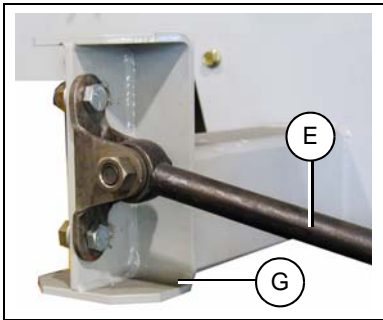
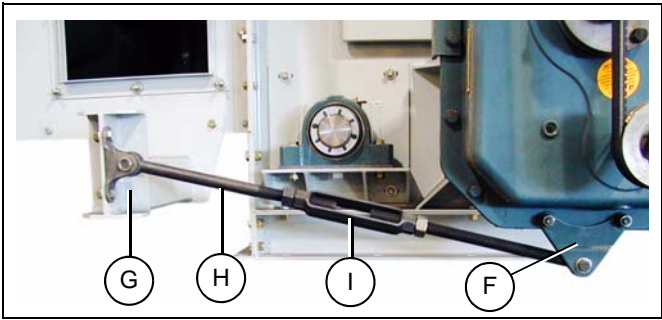
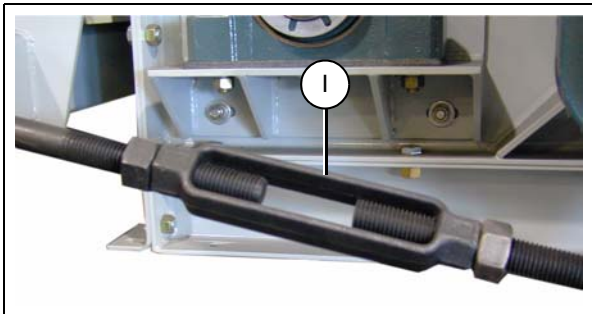

Figure 5F
Figure 5G
Figure 5H
7. The torque arm bracket is mounted under the first intermediate section. Locate bracket by matching an existing set of holes in the intermediate side that allows the turnbuckle assembly to be as short as possible with the reducer in a vertical position. (See Figure 5F, Figure 5G and Figure 5H.)